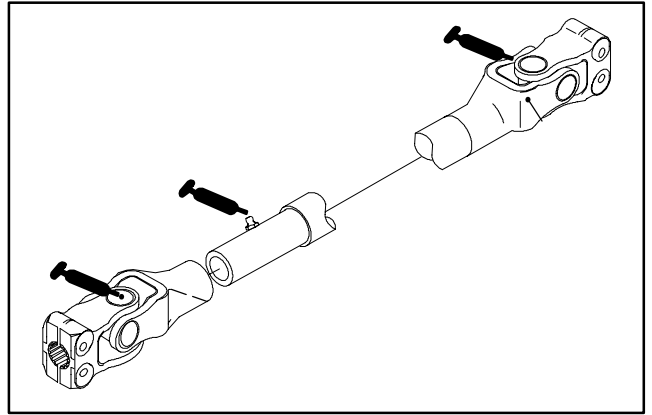

Figure 17
4 Wheel Drive Models only—Steering cylinder ball joints, Rear axle tie rod (2), Rear axle pivot (1), Double Cardan joints (2 ea. side) (Fig. 16) and Rear Drive Shaft (3) (Fig. 17).